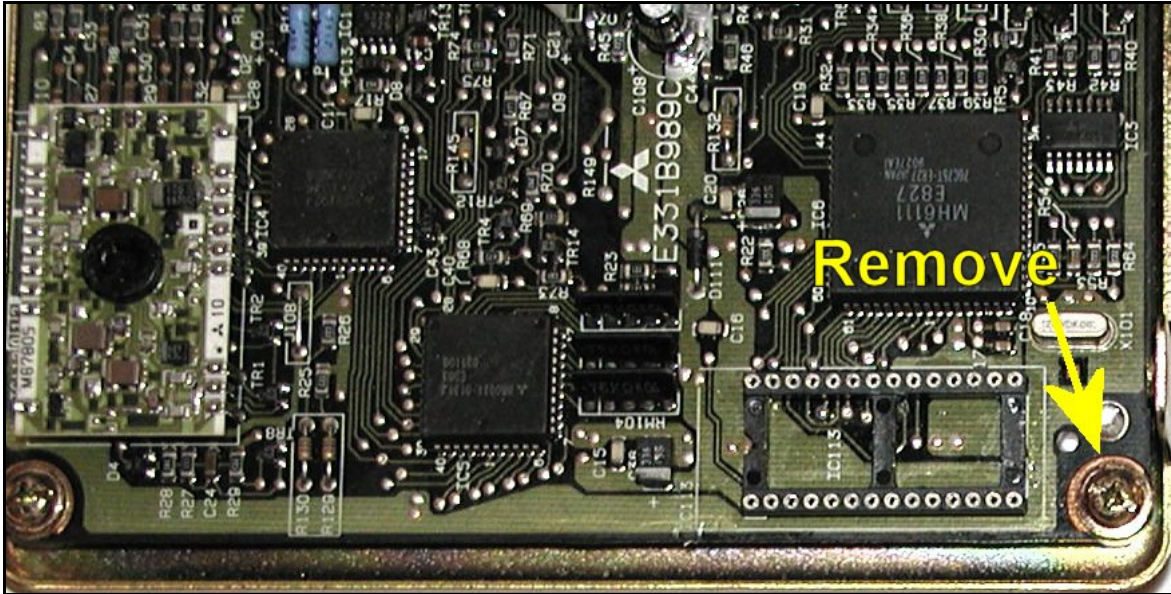

Figure 1: Before installation
2. Remove the circuit board screw located next to the socket (see Figure 1).